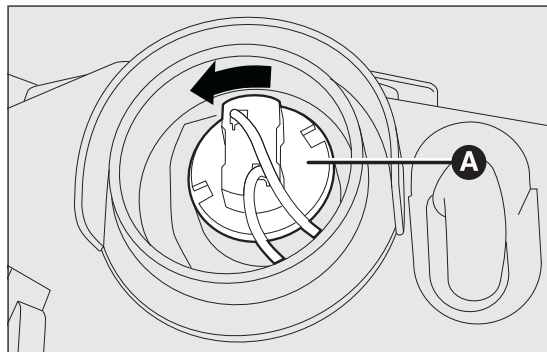

fig. 111
- ☐ turn the bulb holder A fig. 111 anticlockwise and remove it;